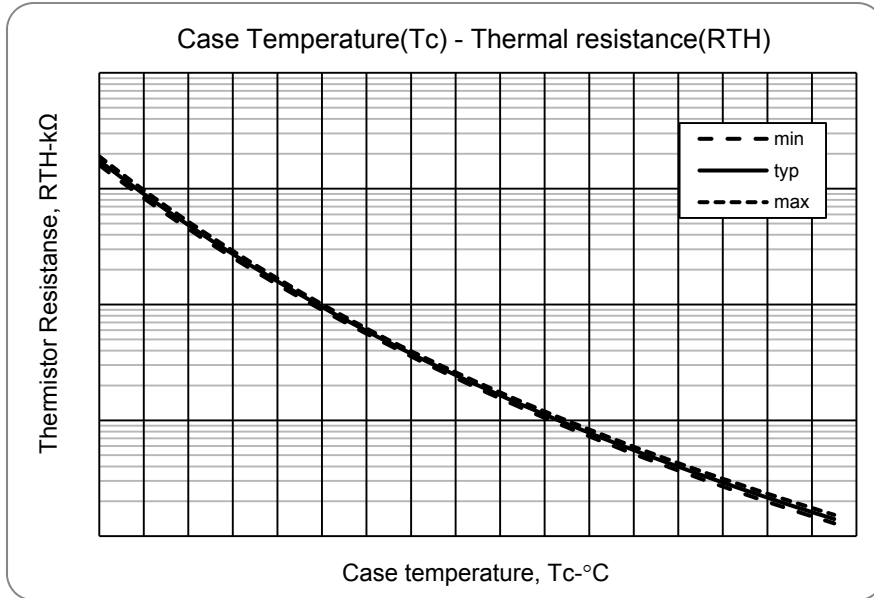
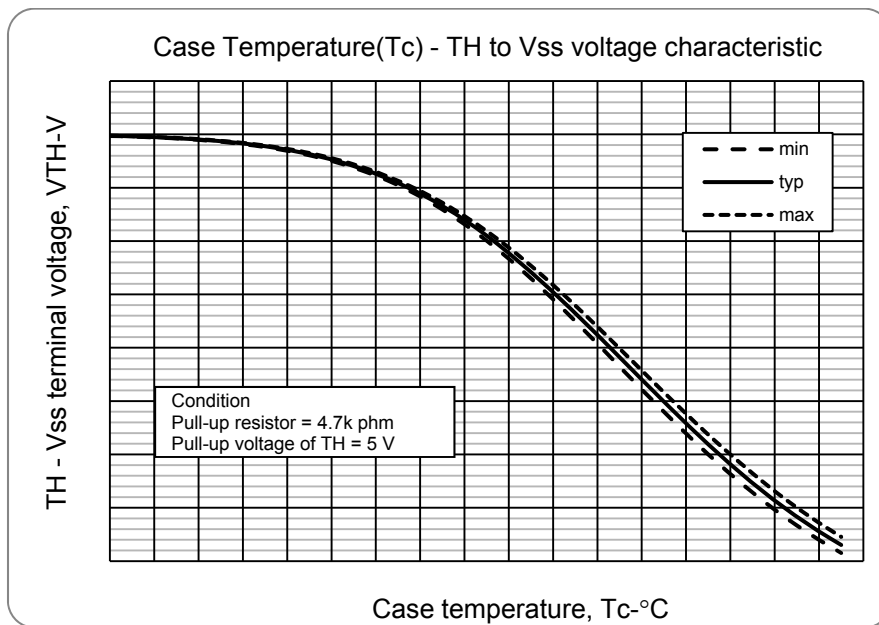

Fig.10 Variation of thermistor resistance with temperature
Fig.11 Variation of temperature sense voltage with thermistor temperature
- Inside the IPM, a thermistor used as the temperature monitor for internal substrate is connected between VSS terminal and TH terminal, therefore, an external pull up resistor connected between the TH terminal and an external power supply should be used. The temperature monitor example application is as follows, please refer the Fig.10, and Fig.11 below.